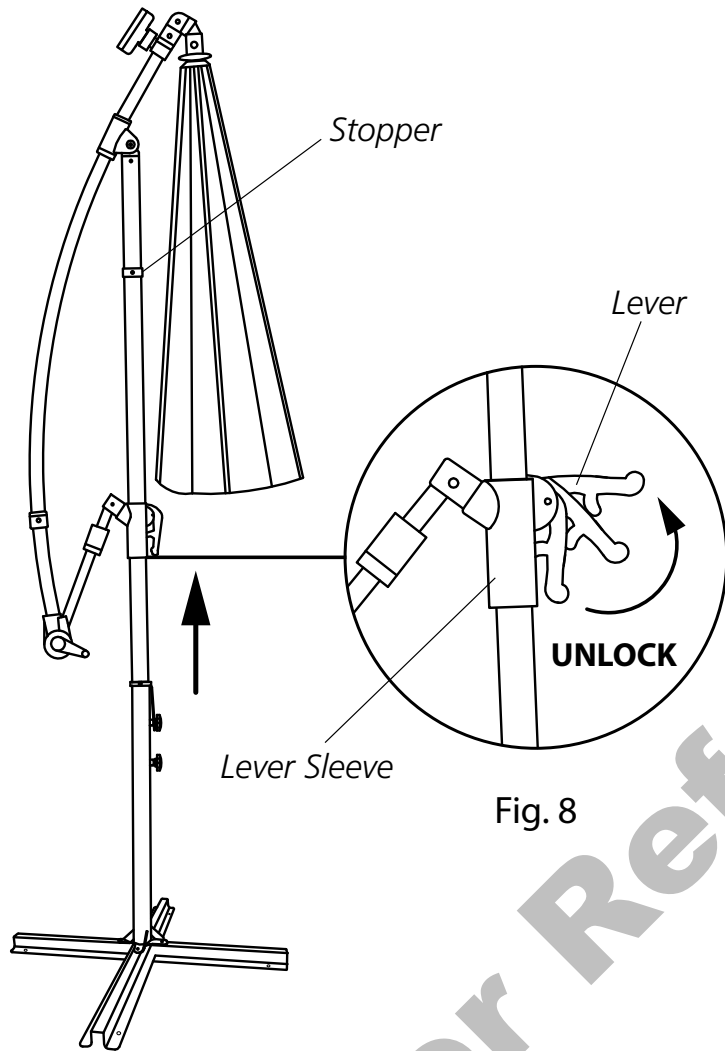

Fig. 8
Release **lever** on the Umbrella Frame (A) by lifting it up to unlock it, see Fig. 8. Lift the **lever sleeve** up until you reach the **stopper** that prevents it from going further up the pole, do this without extending the canopy arm outward. Push down on the lever to lock it place.
**\*Please note that the umbrella canopy is not intended to be stiff when fully opened as is meant to have some room to sway. This is needed so that the umbrella canopy can fold nicely against other components of the Umbrella Frame (A) when not in use.**